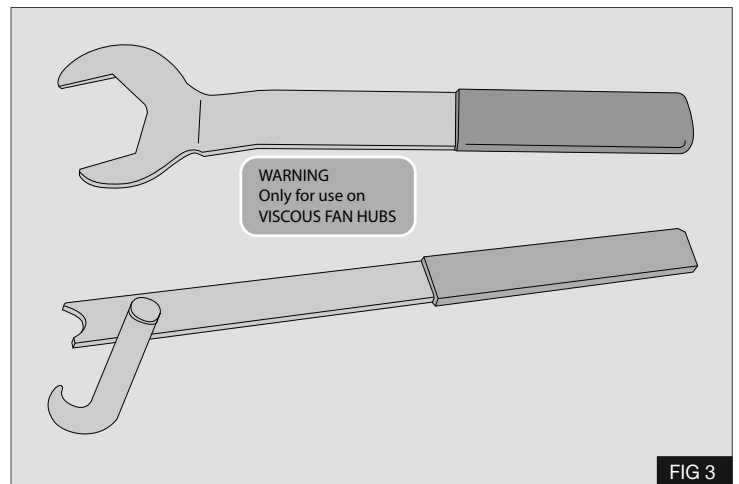

FIG 3
4. Undo viscous fan (C) from the pulley hub (Anti clockwise thread). - Fig 3
Note: Suggested tools see Fig 3